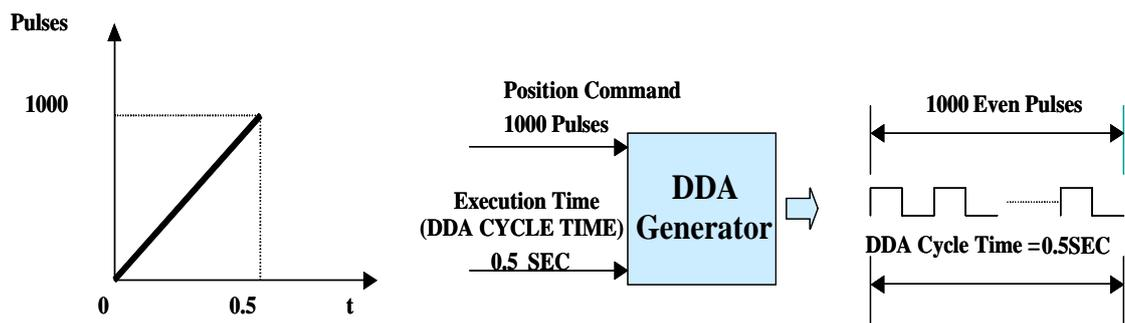
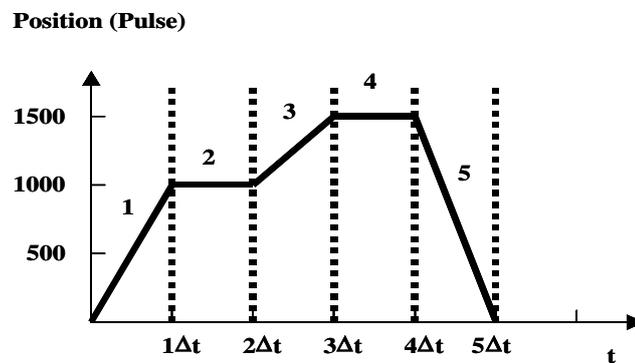

Fig. 1-3
Fig. 1-4
Note 1: DDA please refer to Fig. 1-3 and Fig. 1-4.
Note 2: DDA generator, refer to Fig. 1-3 and Fig. 1-4 below.
- ❖ See Fig. 1-3. The rotation command is 1000 pulses in the positive direction (assuming the starting position for the motor is at 0). The DDA CYCLE TIME is 0.5 sec. Through the DDA generator, 1000 pulses will be sent out to the motor drive smoothly and evenly within 0.5 sec. That is, the motor will rotate 1000 pulses at a constant speed.
- ❖ See Fig. 1-4. The figure shows t (time) on the horizontal axis and motor position (unit: pulse) on the vertical axis, where Δt is the DDA CYCLE TIME.
Note: Refer to Fig.1-3 and Fig.1-4.